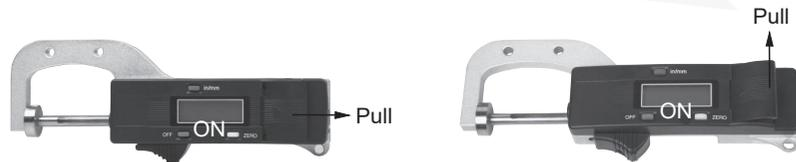

fig.1
1. Remove the battery cover as the following diagram, put the battery(SR44 or LR44) into the battery house, the positive side of battery (+) should face out (fig.1).